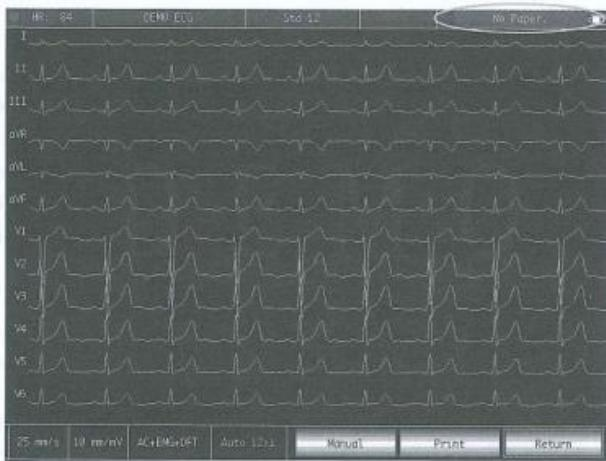

Figure 6-2 Lack of paper demand
- 6.1.3 If the recording paper runs out during recording, the Device will stop printing automatically, and the screen will display a paper shortage warning, as shown in Figure 6-2.